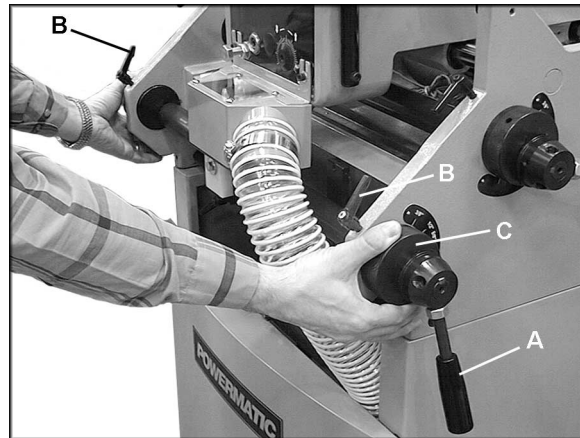

Figure 14
The workpieces are clamped to the table by eccentric bars. Simply rotate the handle (A, Figure 14) until the workpiece is secured. Do not overtighten the clamping bars to prevent denting the workpiece.
1. Loosen the two locking handles on the front edge of the frame (B, Figure 14).
2. Rotate the knurled adjustment pieces (C, Figure 14) **on both sides** of the machine until the indicator line on the adjustment piece matches the desired thickness on the adjoining scale. It is important that both knurled adjustment pieces be rotated the same to ensure the clamping bar is parallel to the table.
3. Tighten locking handles (B, Figure 14).